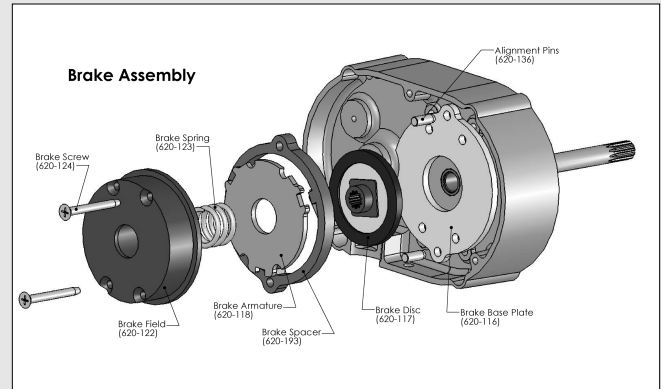

Figure 8B
- Refer to Figure 8B and disassemble the brake. Depress and hold the field assembly (620-122) while removing the four brake screws (620-124). The field assembly is under spring pressure and will spring-out if not held. Examine the base plate (620-116), brake disc (620-117) and armature (620-118) for excessive wear, scoring or warpage. Make sure the brake disc is not glazed, the coil firmly fixed in the field (620-122) and the brake spring (620-123) is not damaged. Worn, scored, warped, glazed or damaged parts should be replaced before proceeding.
- Refer to Figure 8B and assemble the brake. Depress and hold the field assembly (620-122), while installing the four brake screws through the brake parts and mount the brake on the gear housing (620-113). Tighten the four brake screws (620-124) to 25 in.lb. (2.8 NM).